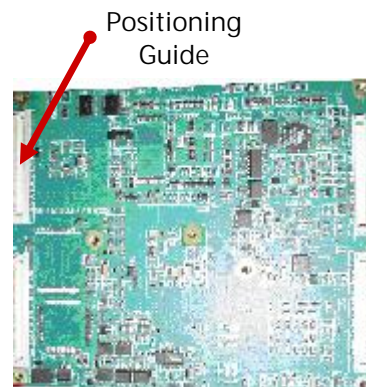

Figure 17: Setting the ETX
- STEP 1:** Place revised housing part number label on front of MPU tray as in Figure 17.
- STEP 2:** Use the positioning guides on the backside of the ETX component and on the motherboard (see Figure 17 and Error! Reference source not found.), to align and carefully set the ETX on top of the spacers.